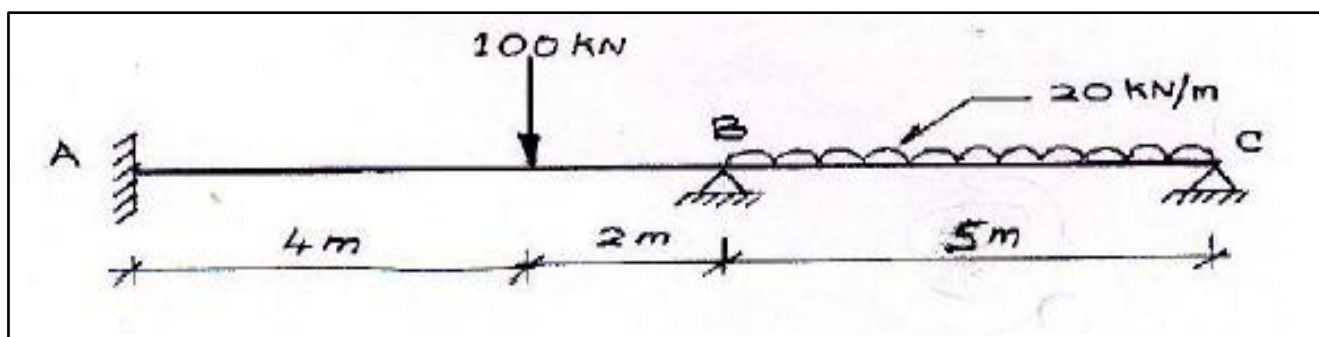

Fig.1
2. (a) Analyze two span continuous beam ABC as shown in Fig.1 by Slope-deflection method.